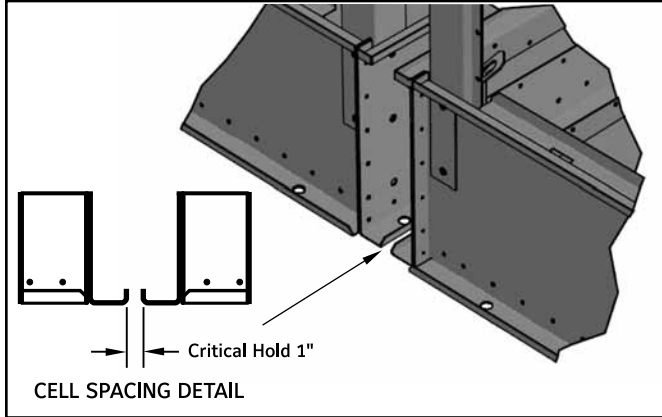

Figure 7
6. Position Cell #2 on the unit supports, exactly 1" between basins (Figure 7). Wipe down the mating surface by the flume opening to remove any dirt or moisture.